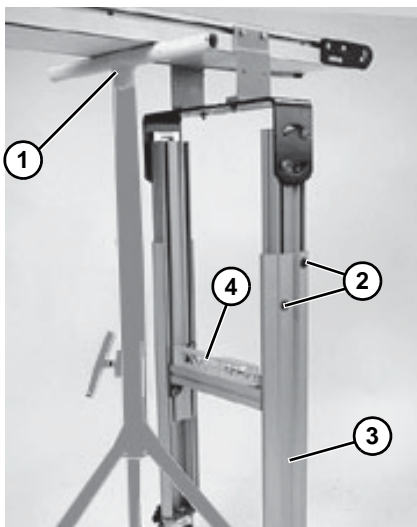

Figure 22
1. Using a support (Figure 22, item 1), raise conveyor and stand off the floor.
2. Loosen button screws (Figure 22, item 2).
3. Raise or lower stand leg (Figure 22, item 3) to the required height. Level stand from side to side using a level (Figure 22, item 4).
Failure to secure screws (Figure 22, item 2) may cause conveyor sections to drop down causing severe injury. TIGHTEN SCREWS (Figure 22, item 2) AFTER ADJUSTMENT.
4. Tighten button screws (Figure 22, item 2) to 150 in-lb (17 N-m).
1. Loosen button screws (Figure 22, item 2).
<p>Failure to secure screws (Figure 22, item 2) may cause conveyor sections to drop down causing severe injury. TIGHTEN SCREWS (Figure 22, item 2) AFTER ADJUSTMENT.</p>
3. Tighten button screws (Figure 22, item 2) to 150 in-lb (17 N-m).